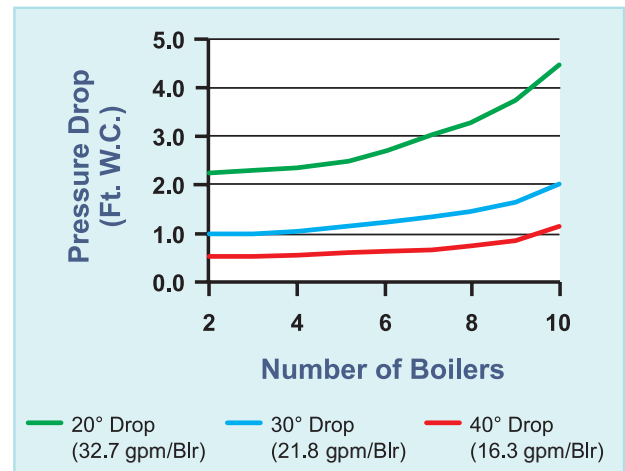

Figure 5.15: Pressure Drop thru Flex-Heat® Manifolds and Boiler Modules
2. The pressure drop through the FLEX-HEAT® manifolds and boilers when piped according to Figure 5.2 is shown in Figure 5.15. Do not exceed 10 boilers piped to one FLEX-HEAT® manifold system.